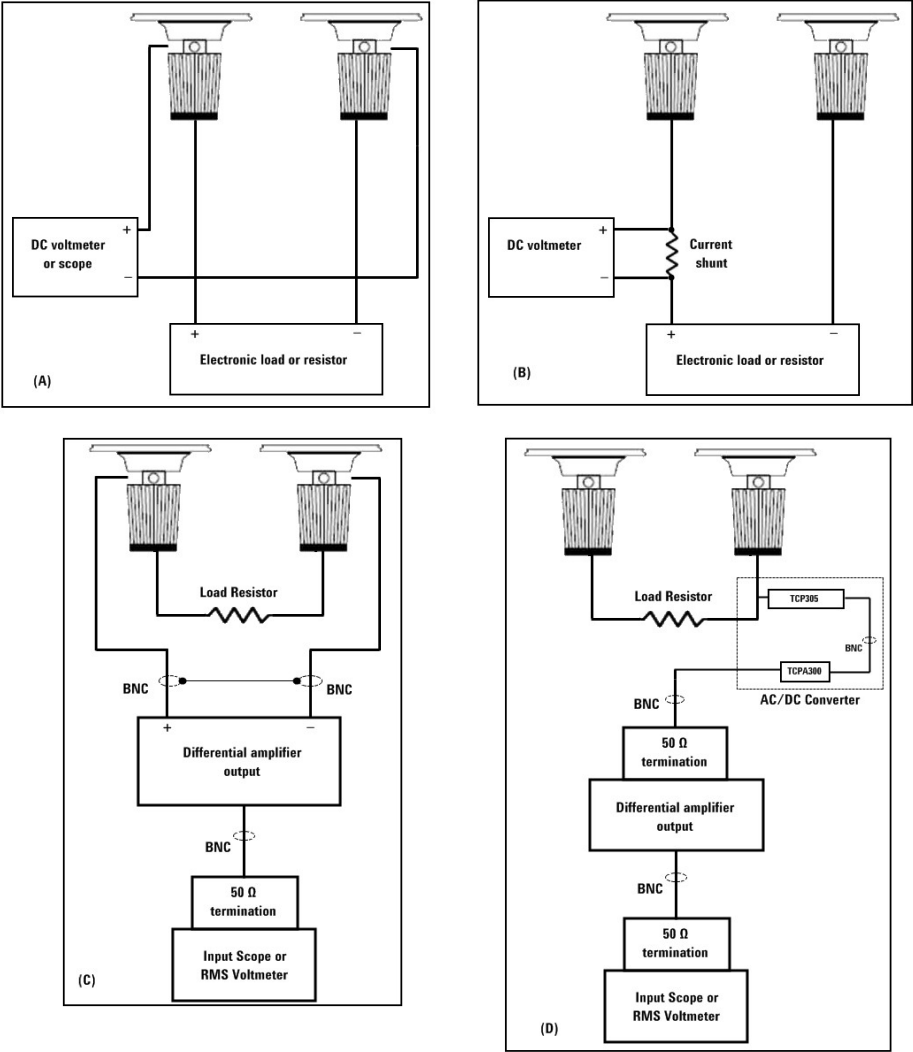

Figure 5-2 Test setups
- 1** Power off the power supply and connect a DMM between the (+) and (–) terminals of the output to be tested. Remove the electronic load or resistor block as shown in Figure 5-2\(A\), to operate as an open circuit.
- 1** Power off the power supply and connect a DMM between the (+) and (–) terminals of the output as shown in Figure 5-2\(A\).
- 1** Power-off the power supply and connect a DMM between the (+) and (–) terminals of the output to be tested as shown in Figure 5-2\(A\).
- 1** Power off the power supply and connect the output to be tested as shown in Figure 5-2\(C\) to a differential amplifier and load resistor (10 Ω for U8001A and 6 Ω for U8002A)
- 1** Power off the power supply and connect the output to be tested as shown in Figure 5-2\(A\) with an oscilloscope. Operate the electronic load in constant current mode.